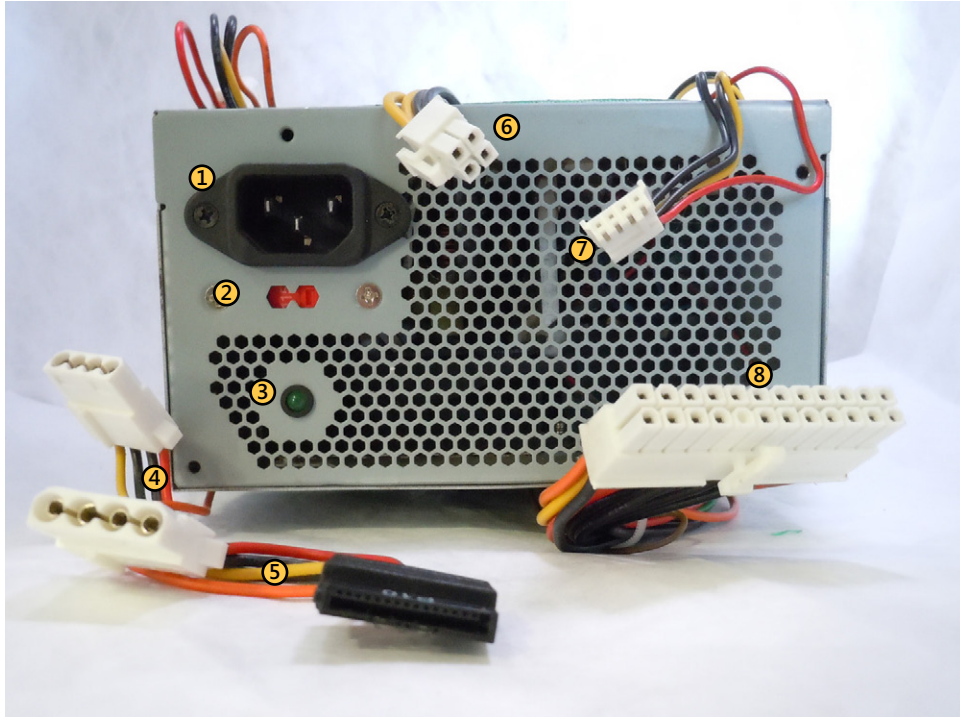
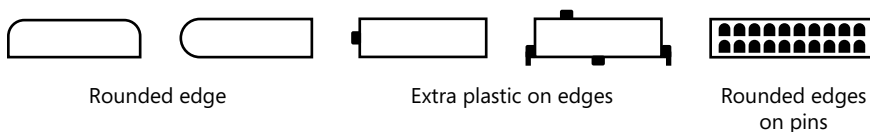

FIGURE 1-5 Power supply.
FIGURE 1-7 Cable keying examples.
Figure 1-5 shows the rear view of a power supply, along with its connectors. This power supply was removed from a computer with an ATX-style motherboard. Refer to the figure as you read the following descriptions.
Figure 1-7 shows some common methods of how cables are keyed.
It might not be apparent in Figure 1-5 shown earlier, but several of the connectors have keyed connectors similar to that shown in Figure 1-7. The Molex connectors (item 4 in Figure 1-5) have rounded edges. The SATA power connector (item 5) has an extra edge. The mini-connector (item 7) has several extra edges. The primary power connector (item 8) has rounded edges on the individual pins.